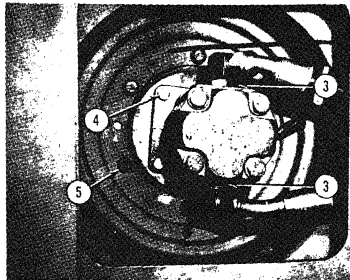

FIGURE 22
4. Figures 22 and 23. Drive End. Remove the hose clamp holding the two high pressure hoses in place. Loosen slightly (but do not remove the two hydraulic elbow fittings (3) threaded into motor). Remove four cap screws (4) holding the motor to the motor and wheel mount. Pull and swing out the motor from mounting frame.
6. Refer figure 22. Remove six cap screws (5) holding the wheel to the wheel mount.